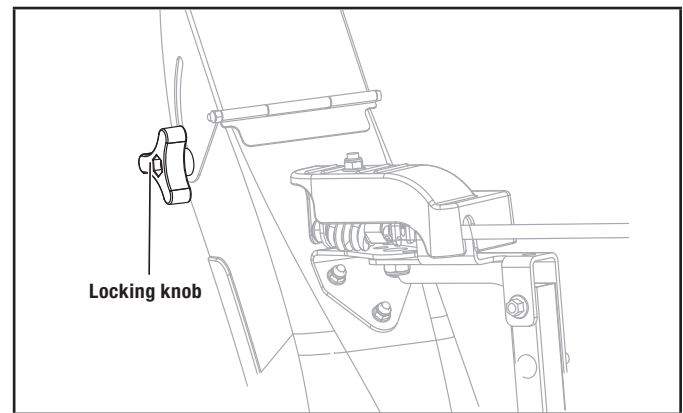

Figure 16
1. Loosen the locking knob to adjust the snow discharge deflector to a suitable height (Fig. 16).